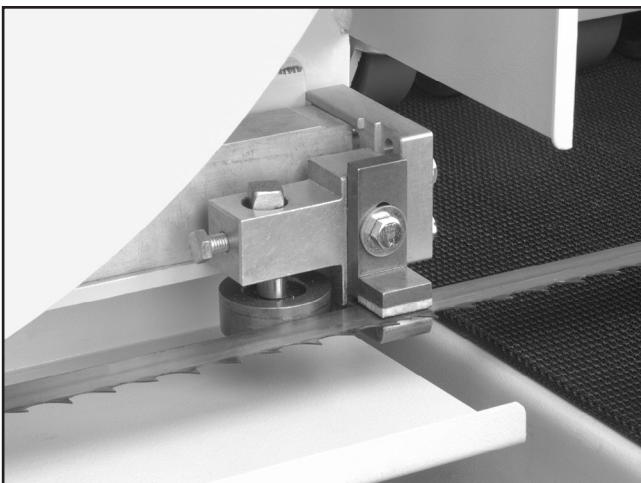

Figure 13. Blade positioned between blade guides.
4. Carefully fit the blade over each wheel, and position it between the blade guides as shown in **Figure 13**. Make sure the teeth point toward the right-hand side of the machine, as you are facing the front.